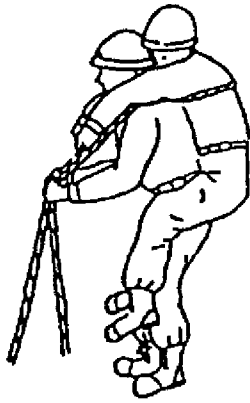

Fig. 7-9
(2) Equipment/Materials
(3) Setup
(4) Tying Victim onto Back
- a. Place the rope slightly above the center of the back of the victim with the victim high on the back of the rescuer; slide the ends of the sling ropes under the armpits of the victim and over the shoulders of the rescuer to the front. (Fig. 7-9)